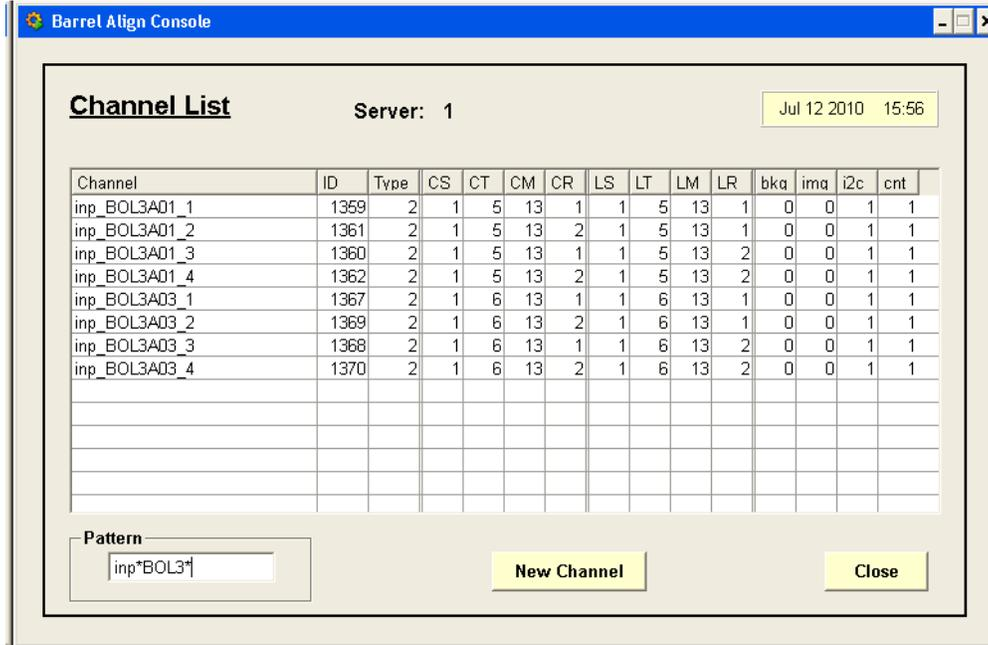

Figure 2.7: Channel list
- The channel list is displayed in Figure 2.7. The New Channel button is for experts only. Initially the list is empty. By means of the Pattern selection, in which any regular expression is possible, a subset of the channels is listed. Make sure the input focus is set to this widget and press Enter to evaluate the pattern. The default is all '\*', but it will take some time to fill the list with 707 channels. Figure 2.7 shows the list of channels as a result of the pattern: inp\*BOL3\*. Pressing a column header will reverse the order of the list, belonging to that header. The columns which are displayed are a subset (but an important subset) of the parameters. From left to right: